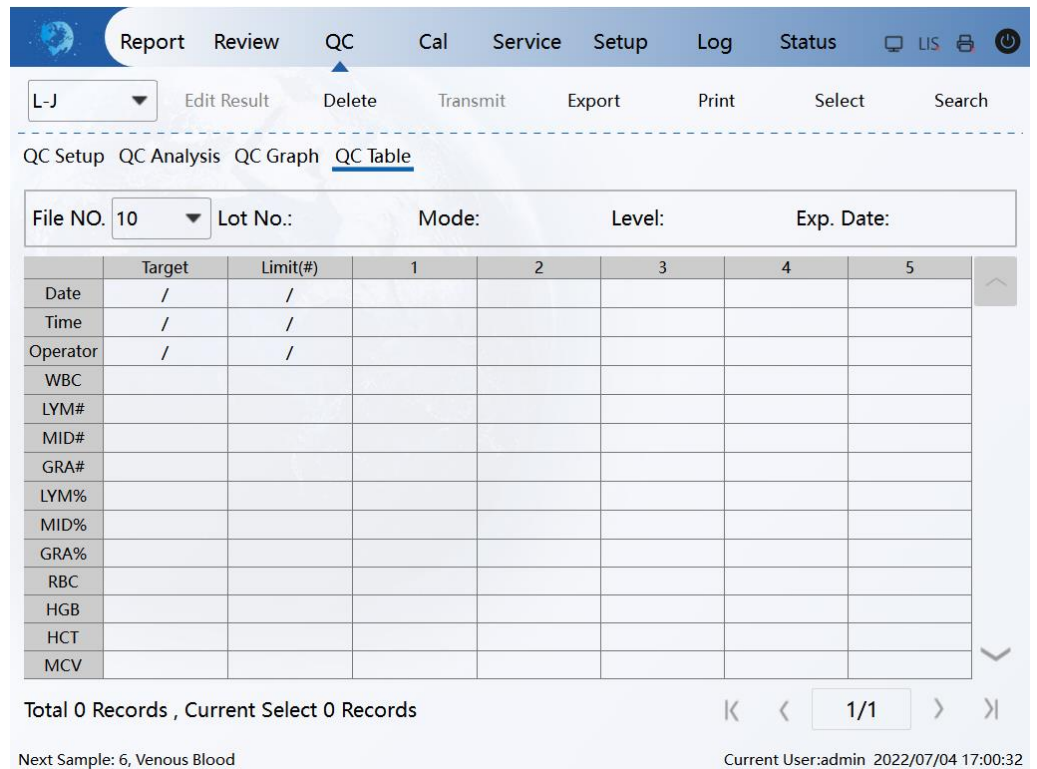

Figure 5-9 QC table
4. Select the File NO. that you want to review, such as "10". As shown in Figure 5-9, the interface displays the corresponding QC information and QC graphs.